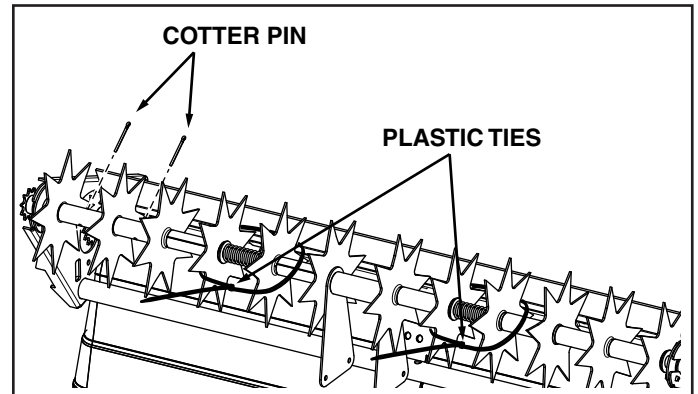

FIGURE 15
21. Assemble two cotter pins into the drive disks. Spread the ends of the cotter pins. See figure 15.
22. Cut the plastic ties and remove them from the disks. See figure 15.